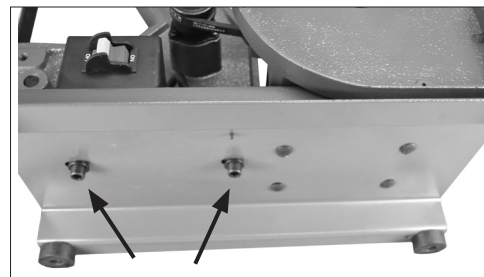

FIG. 2
3. Line up the two holes in the frame with the two holes in the base. From the bottom of the base, insert the two hex head Screws, Washers and Lock Washers (#7, 2, 3) through the holes to join them together. You need to tilt the base up to do this. Hand tighten the two screws. FIG. 2.